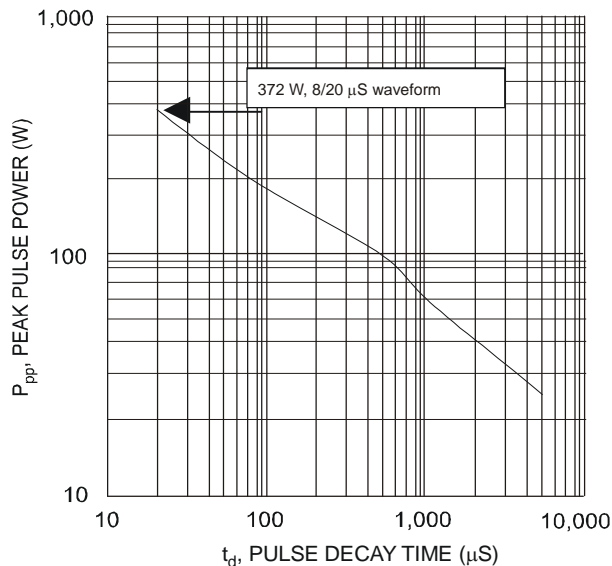

Fig. 2 Unidirectional Non-Repetitive Peak Pulse Power vs. Pulse Duration or Pulse Width
e.g. $P_{pp} = 372 \text{ watts}$ for pulse width (td) of 20 μS , then $372 \text{ watts} = K (20)^{-0.5}$ and $K = 372 / (20)^{-0.5} = 372 * \sqrt{20} = 1663.63$
Now, P_{pp} when $td = 50 \mu S$: $P_{pp} = 1663.63 (50)^{-0.5} = 1663.63 / (\sqrt{50}) = 235.27 \text{ watts}$ (close to measured value see fig. 2)